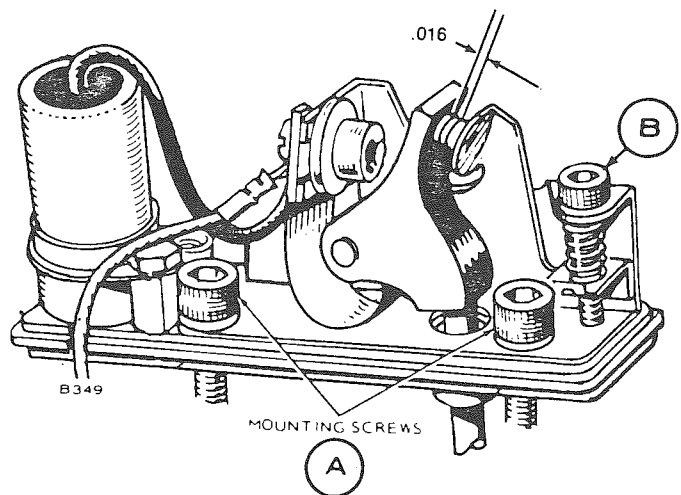

Figure 217 – Top Adjustment Points
3. Using an allen head wrench, adjust set screw (B) for .016 (0.41 mm). Measure point gap with a flat thickness gauge.
**NOTE:** Make sure feeler gauge is clean and free of any grease, oil or dirt, (see figure 217).
**Generator Carburetor** — The generator carburetor has two mixture adjustments: an idle mixture which affects operation mainly at no load and a main (power) adjustment which affects operation at maximum load (figure 217). If your generator set has a "hunting" (sudden surges and drops in speed) condition at no load or full load and cannot be corrected by carburetor adjustments, check governor, linkage and adjustment. A hunting condition at no load can usually be corrected by an idle mixture adjustment.